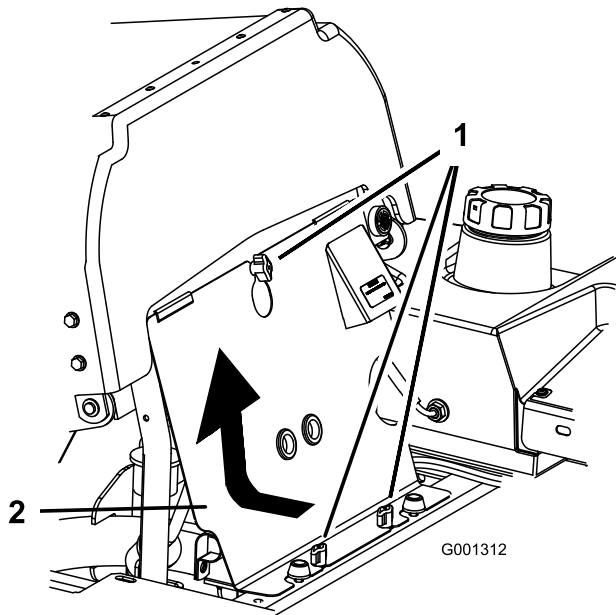

Figure 85
3. Loosen the front engine panel knobs and remove the panel (Figure 85).